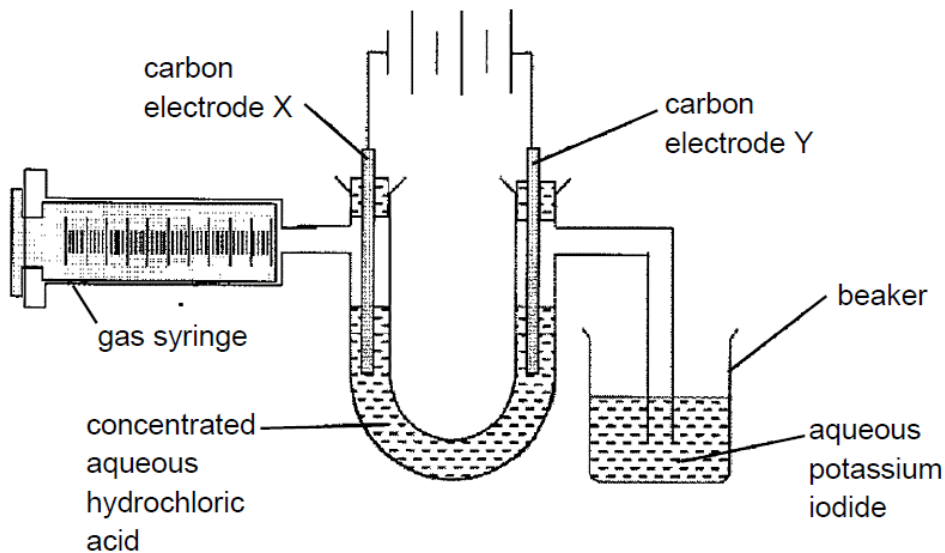

Fig. 10.1
- 10** Fig. 10.1 shows the apparatus used in the electrolysis of concentrated aqueous hydrochloric acid.
- (b)** As shown in Fig. 10.1, the gas discharged at electrode Y is bubbled into a beaker containing aqueous potassium iodide.